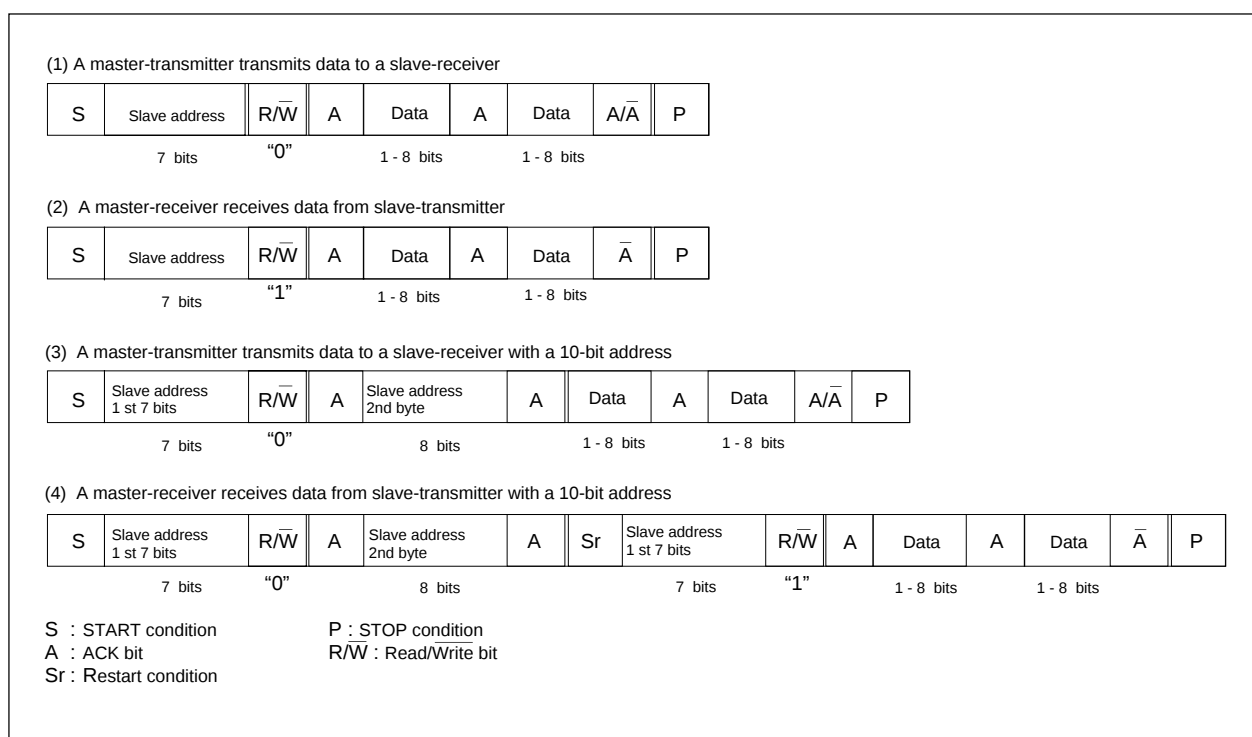

Fig.GC-21 Address data communication format
(1) 7-bit addressing format
To adapt the 7-bit addressing format, set the DBIT SAD bit of the I²C control register 0 (address 0323₁₆,0333₁₆) to "0". The first 7-bit address data transmitted from the master is compared with the high-order 7-bit slave address stored in the I²C address register (address 0322₁₆,0332₁₆). At the time of this comparison, address comparison of the RBW bit of the I²C address register (address 0322₁₆,0332₁₆) is not performed. For the data transmission format when the 7-bit addressing format is selected, refer to Fig.GC-21 (1) and (2).
(2) 10-bit addressing format
When the first-byte address data agree with the slave address, the AAS bit of the I²C status register (address 0328₁₆,0338₁₆) is set to "1". After the second-byte address data is stored into the I²C data shift register (address 320₁₆,330₁₆), perform an address comparison between the second-byte data and the slave address by software. When the address data of the 2 bytes agree with the slave address, write "0" to the ACKBIT to I²C clock control register, to return an ACK. When the address data of the 2 bytes do not agree with the slave address, it does not return an ACK so that makes the finish of the communication by writing "1" to the ACKBIT. If the address data agree with each other, set the RBW bit of the I²C address register (address 0322₁₆,0332₁₆) to "1" by software. This processing can make the 7-bit slave address and R/W data agree, which are received after a RESTART condition is detected, with the value of the I²C address register (address 0322₁₆,0332₁₆). For the data transmission format when the 10-bit addressing format is selected, refer to Fig.GC-21(3) and (4).